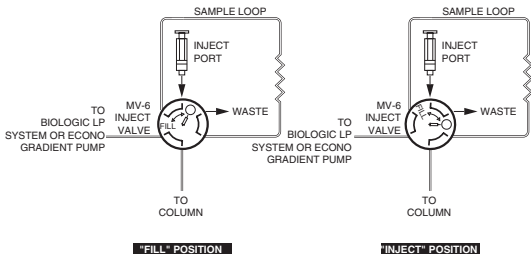

Fig. 2. Connecting to an MV-6 valve.
2. To maximize gradient accuracy and to apply samples efficiently, install 1.6 mm ID tubing from the pump to the MV-6 sample inject valve (if available). If using the MV-6 sample inject valve, turn the knob counterclockwise as far as it will go so it will now correspond to the printed diagram on the valve (see Figure 2).
3. Connect the inlet of the cartridge to the male luer fitting on the MV-6 sample inject valve (see Figure 2). If not using the MV-6 sample inject valve, connect a barb to male luer fitting on the 1.6 mm ID tubing, then connect to the top of the female luer on the Bio-Scale Mini cartridge. For optimum performance, a cartridge should be mounted vertically with the arrow on the cartridge pointing downward (see Figure 3).